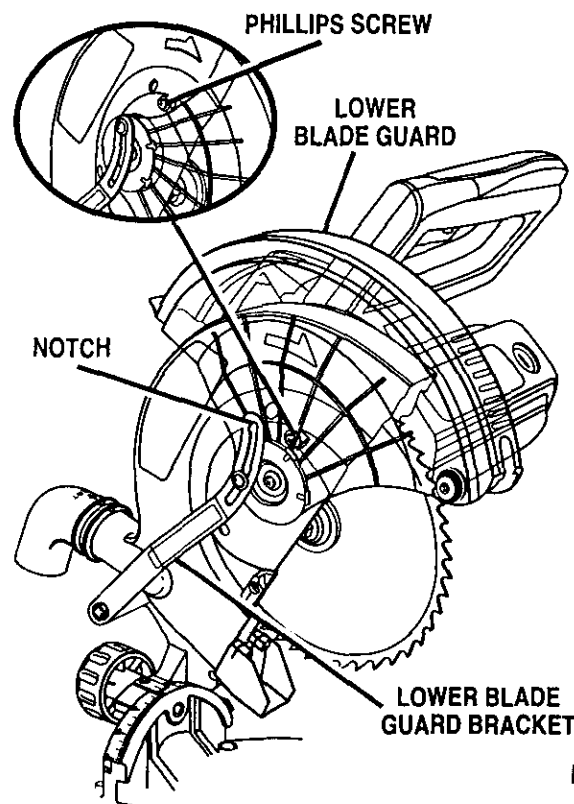

Fig. 10
See Figures 10, 11, and 12.
■ Loosen the phillips screw on the blade bolt cover until blade bolt cover can be raised. See Figure 10 and 11.
■ Gently raise the lower blade guard bracket, releasing lower blade guard from notch so that lower blade guard and blade bolt cover can be rotated up and back to expose the blade bolt. See Figures 10 and 11.